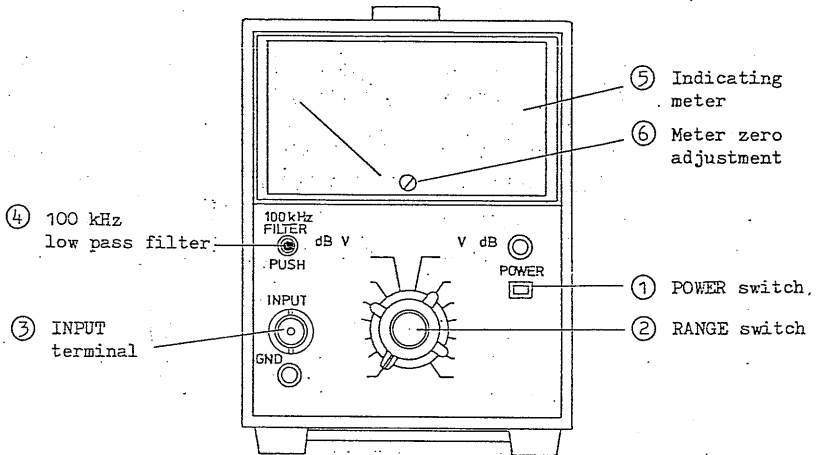

Fig. 3-1
- 2) Check that the meter pointer is indicating the zero scale position. If it has been shifted, align it accurately with the zero position by means of the meter zero adjustment ⑥. (See Fig. 3-1.) (Before adjusting the mechanical zero, ensure that the meter pointer has been settled near the zero position as a period of 5 minutes of thereabove has elapsed after turning-OFF the POWER switch.)
- 7) For measurement at a high sensitivity, connect the 100-kHz low pass filter (-3 dB at 100 kHz) by depressing pushbutton ④ of Fig. 3-1, in order that the input signal can be measured with low noise. This feature is especially advantageous when the signal source impedance is high.